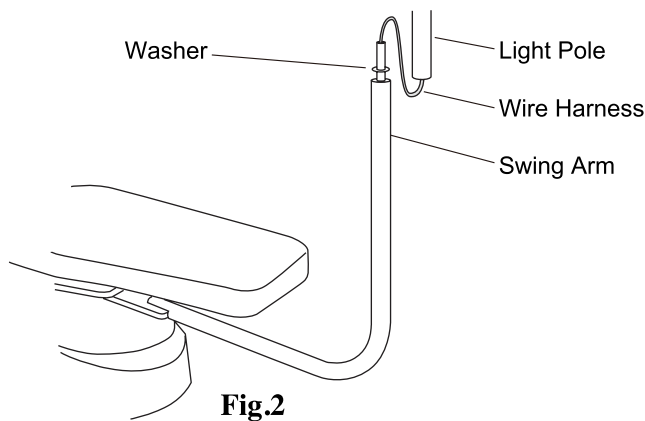
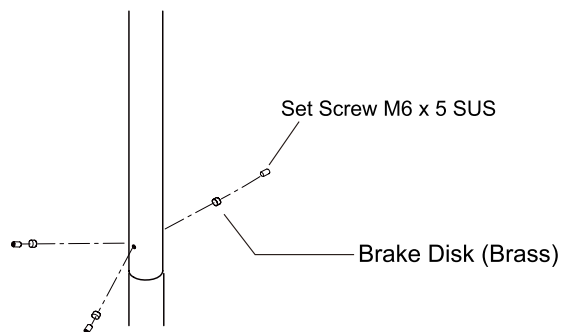

Fig.2
Fig.3
(3) Feed the light assembly wire harness through the swing arm and pull the end of the harness from the lower end of the swing arm. Mount the light pole onto swing arm (Fig.2). Insert the brake disks, set screws in to the light pole and adjust the brake with set screws (Fig.3).